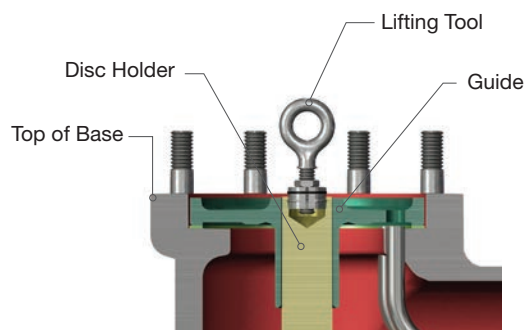

Figure 16: Lifting Tools for M through U Orifice
- Use a screwdriver to compress the spindle retainer (16).
- Remove the spindle (15).
- Insert the lifting tool (see Figure 16) into the disc holder spindle pocket and tighten the eyebolt.
- Remove the disc holder (8) and disc (6) by lifting up on the lifting tool.
- Use the lifting lugs to lift the disc holder (8) and to remove all internals (see Figure 16).